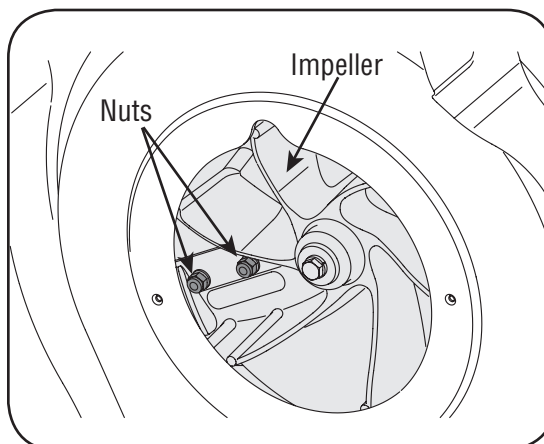

Figure 5-10
10. The nuts on the flat head cap screws can be reached from underneath using a 1/2-inch socket, universal, and extension. See Figure 5-10.